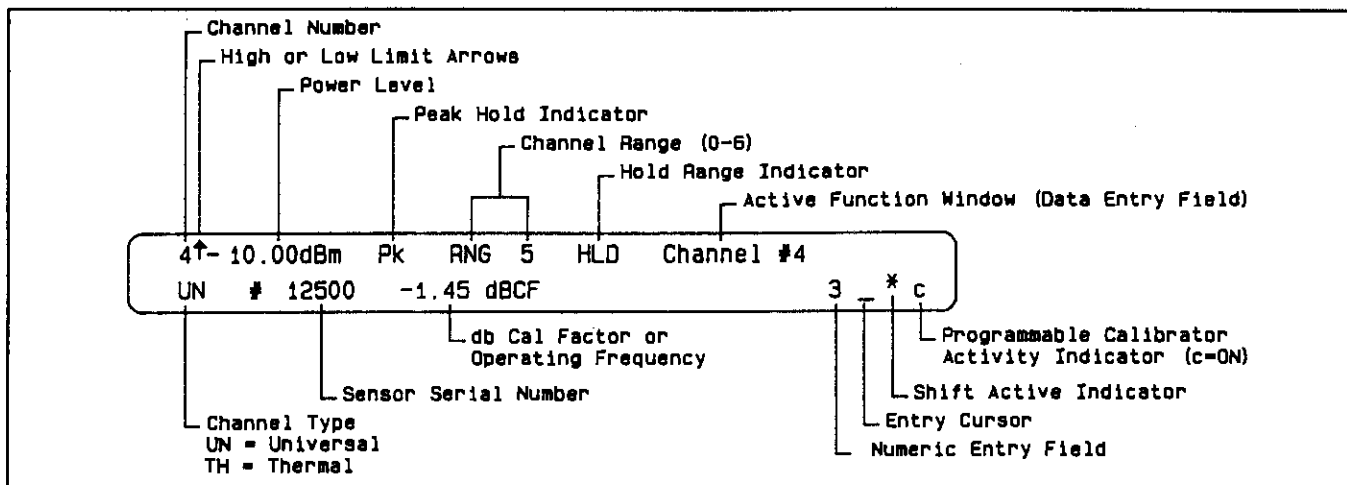

Figure 3-4. Single Channel Display
1. Initialize the instrument as described in Paragraph 3-4. This operation does not need to be done every time the instrument is used. Once the instrument has been initialized the setup conditions are stored. Also, the rear panel bit switch can be set up so that the instrument initializes every time power is applied (set position 8 to OPEN). Refer to Figure 3-4 for a Single Channel Operation Display (sample).